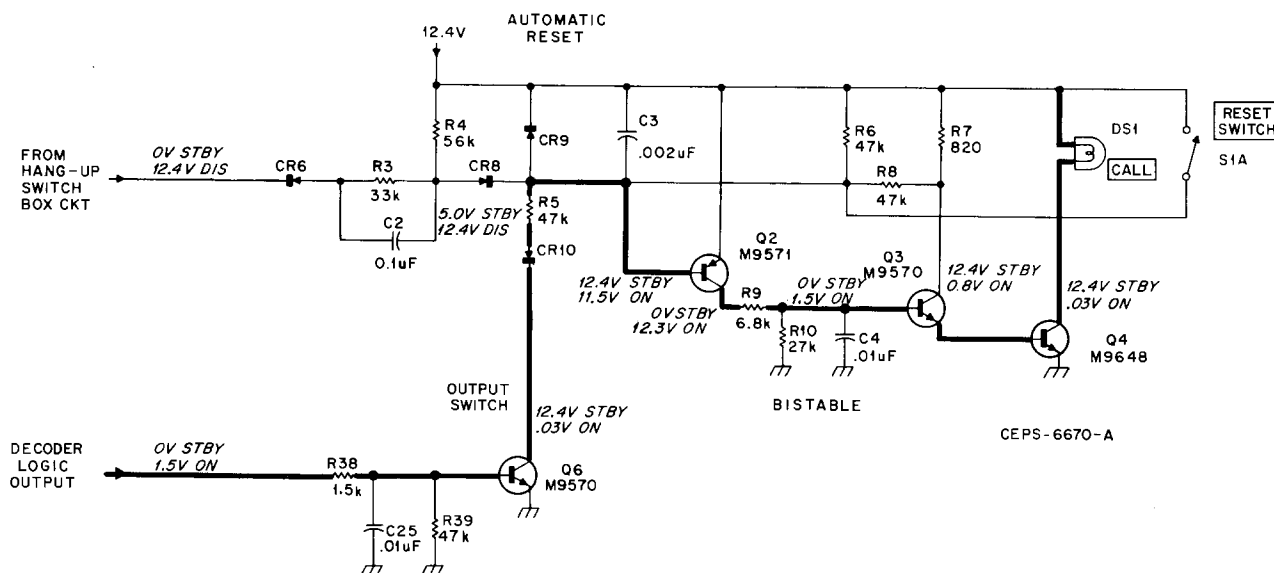

Figure 9.
c. CALL Light Switching (Refer to Figure 9)